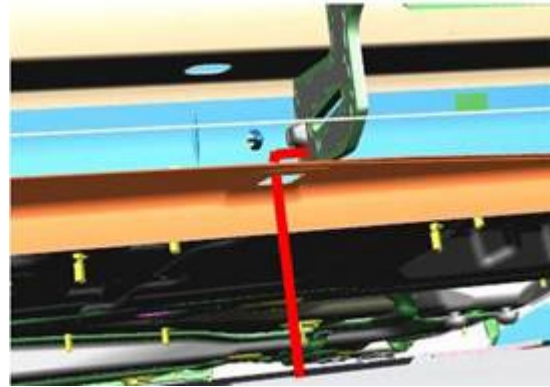

Figure 10. Correct positioning of the heated rod.
12. Figure 10 shows a drawing of the operation performed and the correct positioning.